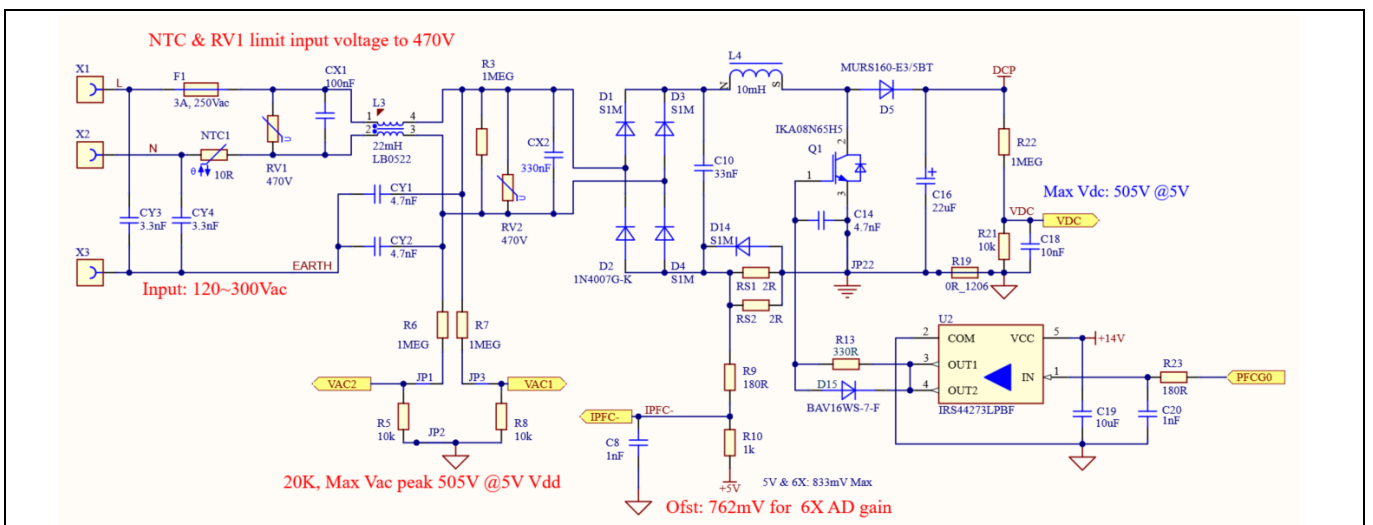

Figure 26 The PFC and peripheral circuit
Figure 26 provides the PFC MOSFET driver and peripheral circuit.
As shown in Figure 26, two resistors RS1 and RS2 (paralleled) with 1% tolerance, 2 Ω, and 0.25 W are used for the PFC shunt resistor in this reference board. The real AD input voltage can be calculated as below according to the principle of Kirchhoff's voltage law:
- In this reference board design, the voltage level on the PFC current-sensing resistor is negative with reference to ground, so an ADC operational bias is needed, and PFC current-sensing input polarity should select “inverting” in MCEWizard. R9 and R10 in Figure 26 determine the ADC operational bias for current-